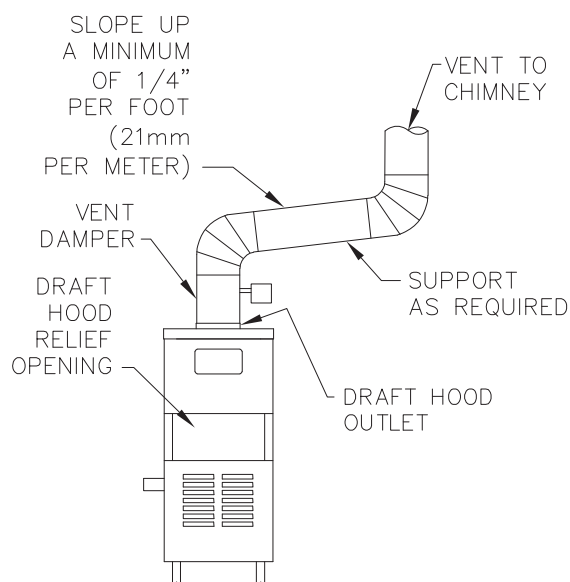
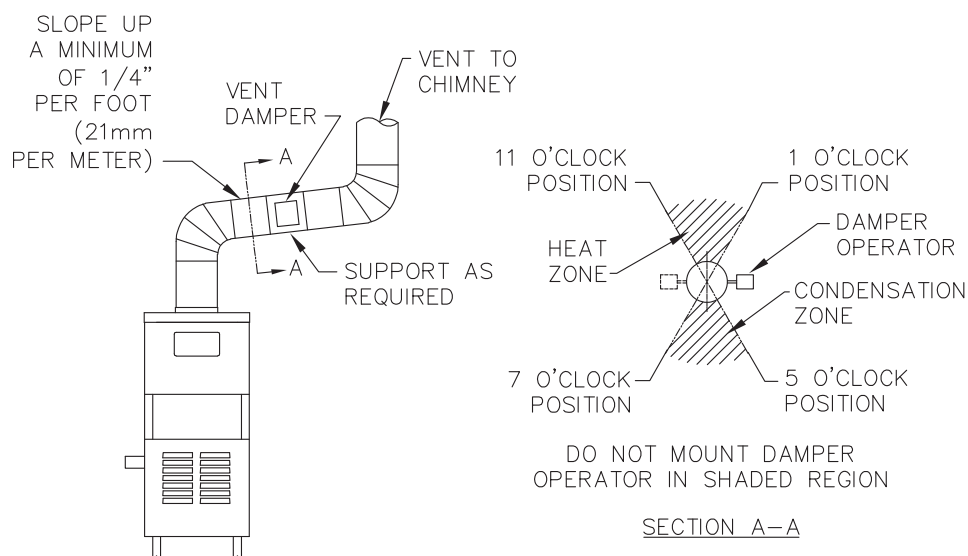

Figure 4.2: Venting with Vent Damper in Vertical Position
Figure 4.3: Venting with Vent Damper in Horizontal Position
4. Orient the damper operator to facilitate connection of the harness with the vent damper and boiler. Note flue gas flow arrow on vent damper and orient as required. For installation with damper mounted in vertical position, see Figure 4.2. For installation with damper mounted in horizontal position, mount the unit as shown in Figure 4.3 to avoid excessive heat on the operator or condensation drips into the operator.